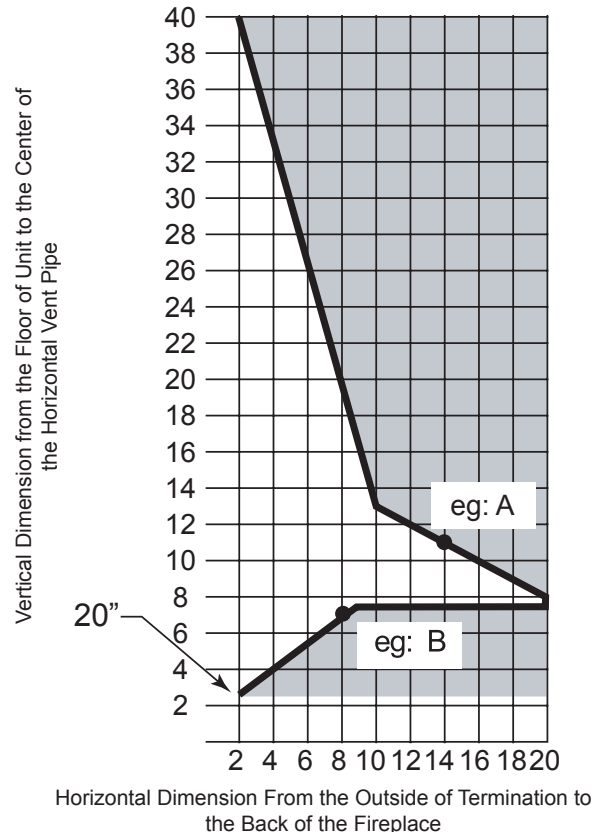

Figure 15 -
1. Determine the height of the center of the horizontal vent pipe exiting through the outer wall. Using this dimension on the Sidewall Vent Graph, *Figure 15*, locate the point intersecting with the slanted graph line.